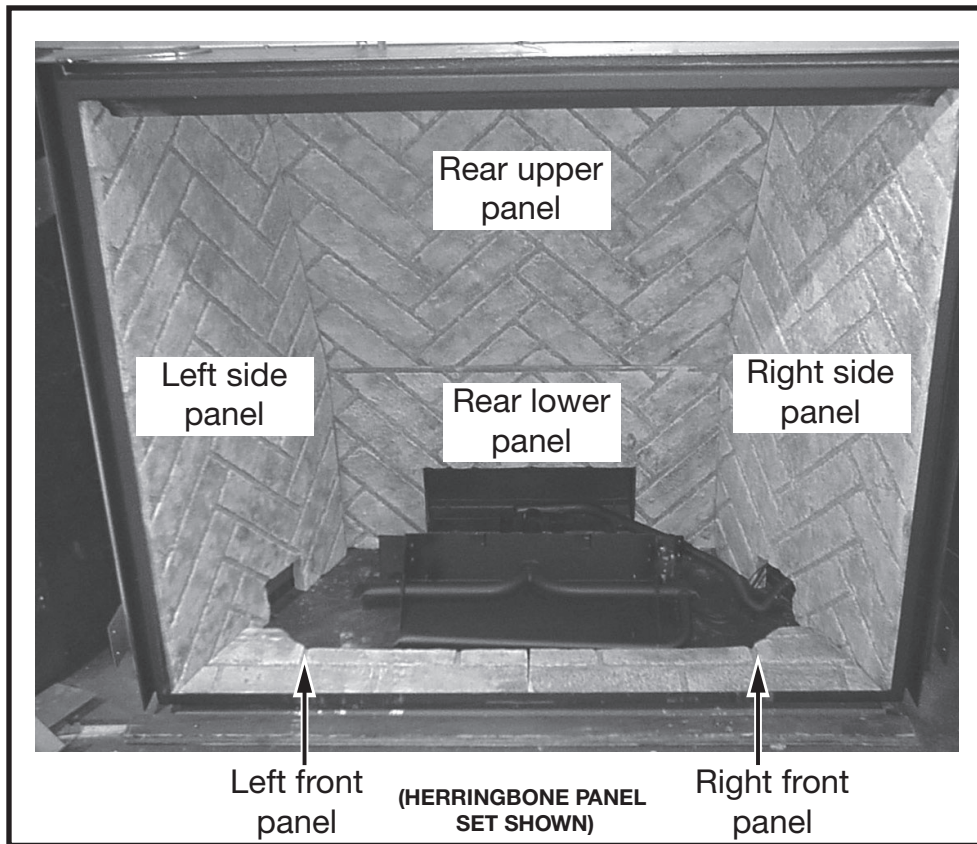

Figure 48: TC42 outdoor panel placement.
2. Install the Lower Rear Panel (Figure 48).
7. Install the Left and Right Front Panels (Figure 48).